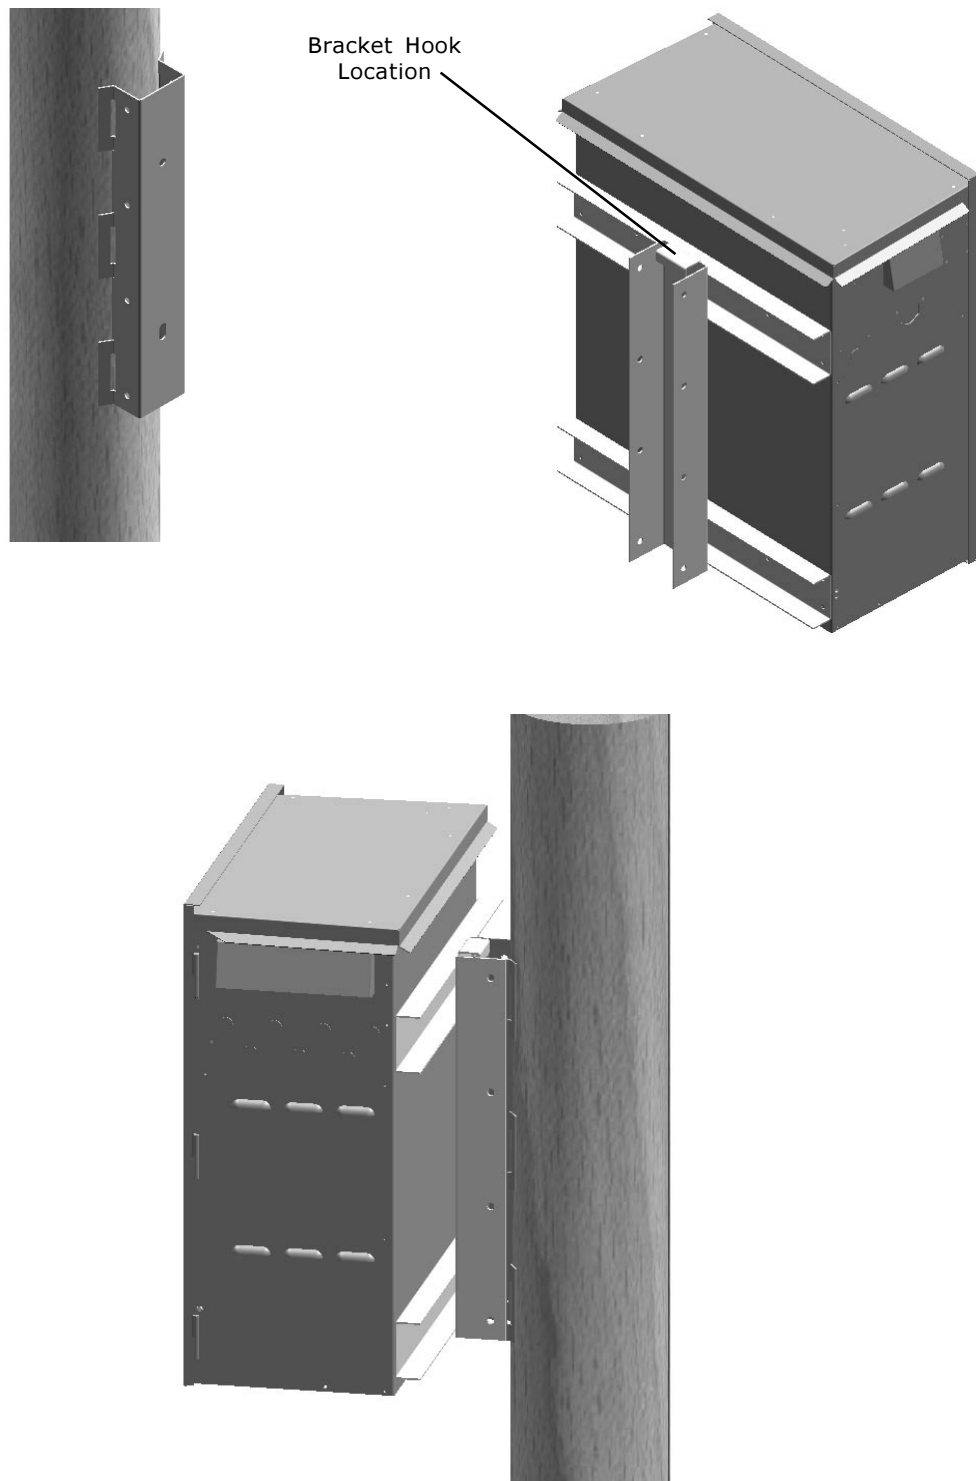

Figure 2-1; Novus XT 2000 Mounting Arrangement for Wooden Poles
5. With bracket hook facing up (See figure 2-1), secure mounting bracket to enclosure using bolts provided. Insert bolts from inside enclosure and tighten to 20 ft/lbs.